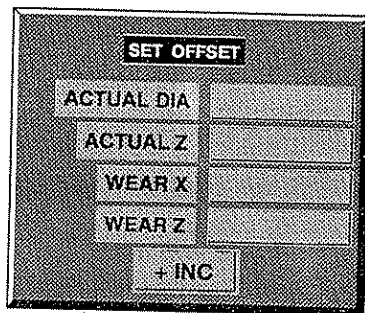

Figure 3-3
- 4) Press the **[+]** **SET** key. A screen as shown in Figure 3-3 will appear.